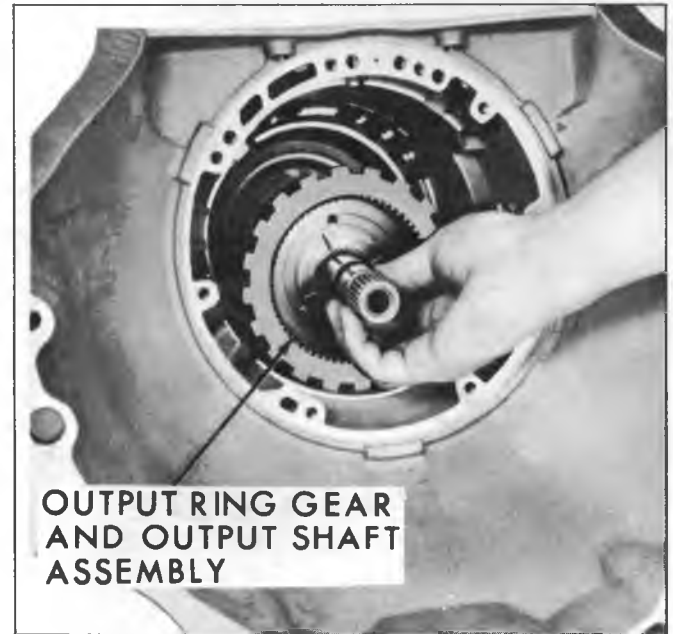

Fig. 43M--Removing Output Ring Gear and Shaft Assembly
18. Remove output ring gear and shaft assembly from case (fig. 43M).